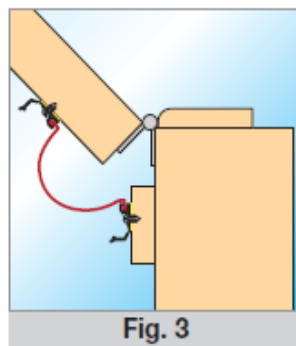

Fig. 3
- 7 Remove tape backing from other rigid profile and stick in position on door jamb (see fig 3)
- 8 Using screws provided fix both sides of Little Fingers Heavy Duty in positioning with a screw every 150mm and with one no more than 25mm away from top and bottom (see fig 3)